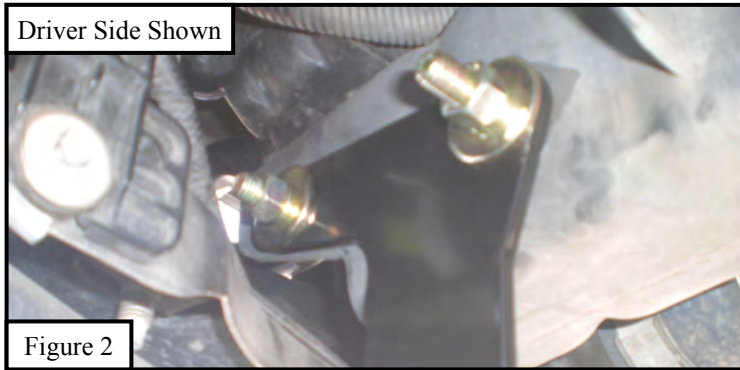

Figure 2
3. Take the drivers side mounting bracket and attach it to the previously installed stud plate using (1) M12 flat washer, (1) M12 lock washer, and (1) M12 hex nut. Attach the front mounting point using (1) M12 hex head bolt, (2) M12 flat washers, (1) M12 lock washer and (1) M12 hex nut (**Figure 2**). Do not fully tighten at this time. Repeat this step for passenger side.